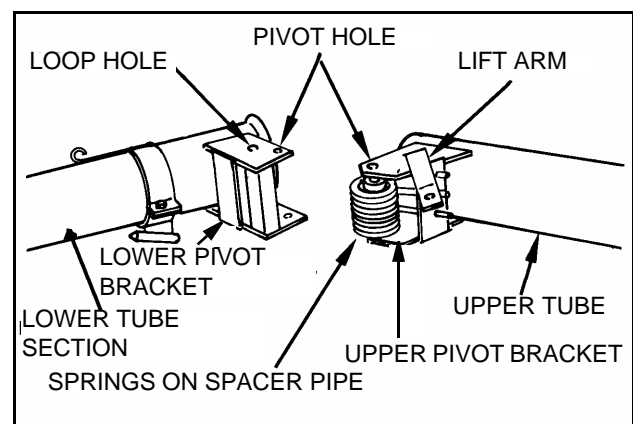

Figure 3.4 Springs on Spacer Pipe
1. On a level surface, lay upper tube next to lower tube (Figure 3.4).